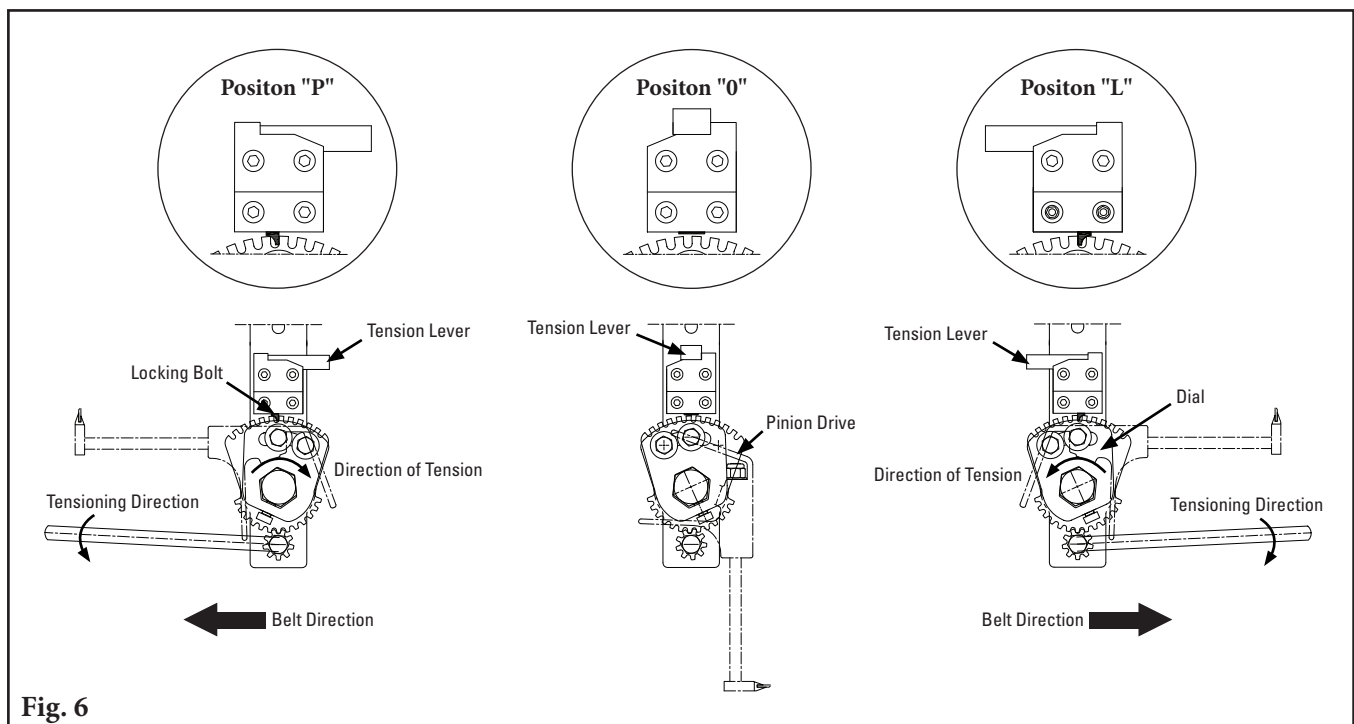

Fig. 6
- a) Prior to tensioning the cleaner, the tension lever guide plate (Fig. 5-3.7) and tension lever (Fig. 5-3.6) must be positioned according to the desired tensioning direction, right (P) or left (L). With the tension lever in the assembly and maintenance (0) position, the pole may rotate freely in any direction (Fig. 6).
- c) The function of the tensioning device is shown in Fig. 6. To increase the tension, an adjustable wrench (SW19) may be used for turning the tensioning gear. The torque is transferred to the pole via the mechanical gear.